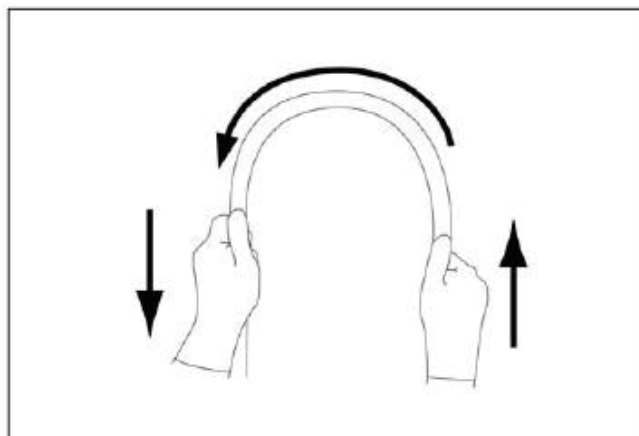

Fig 3.5
6. Using both hands, bend the insertion tube of the endoscope into a semicircle. Then, moving your hands as shown by the arrows, confirm that the entire insertion tube can be smoothly bent to form a semicircle and that the insertion tube is pliable enough (Fig 3.5).